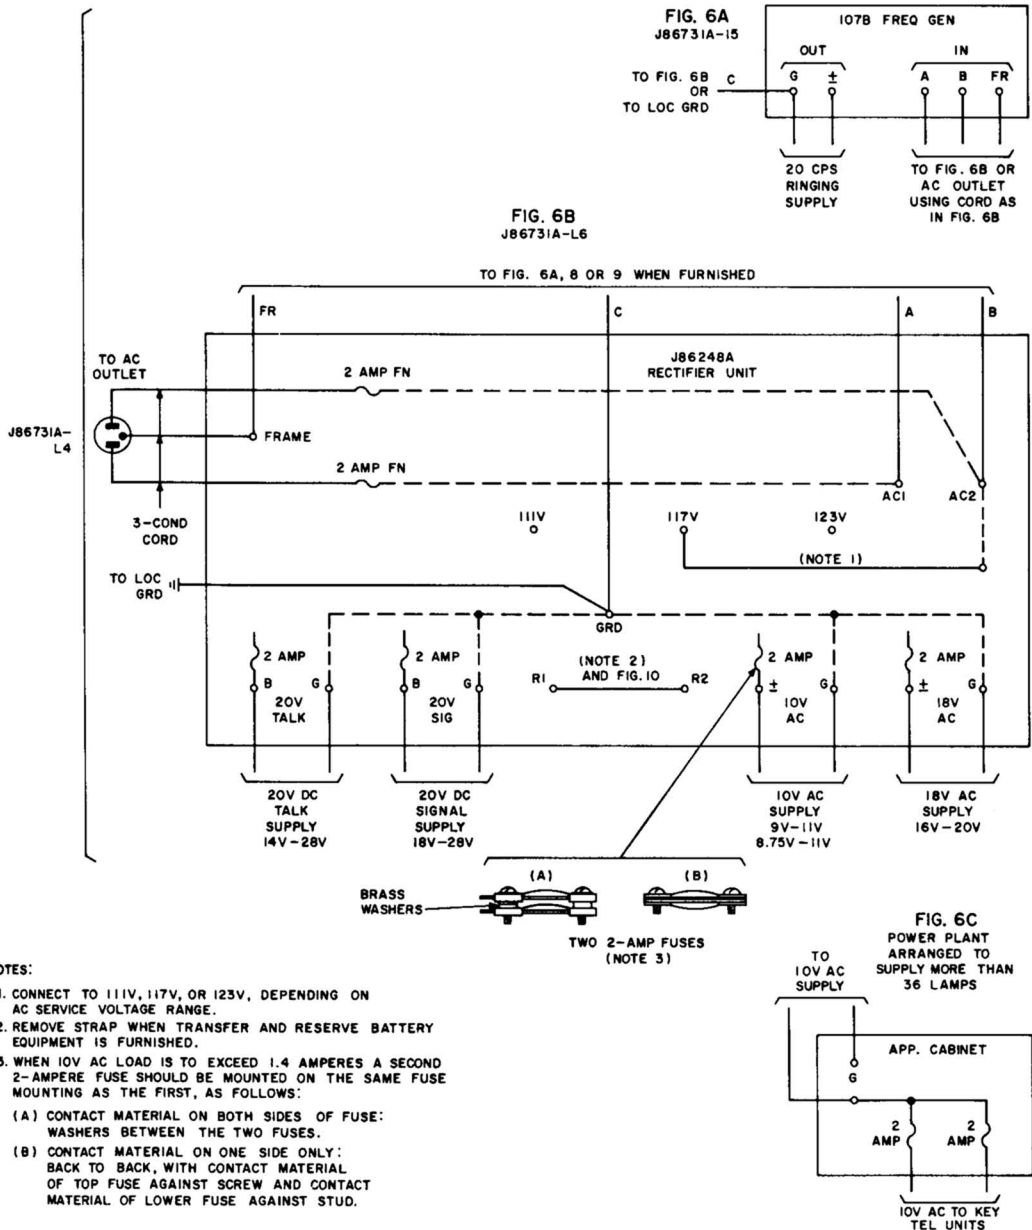
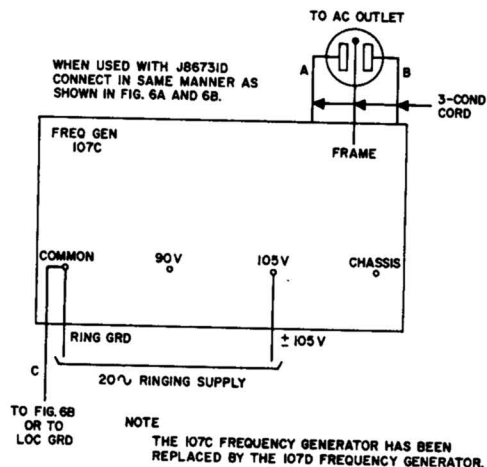

Fig. 6 — 101G (J86731A and D) Power Plants
Fig. 8 - 101G (J86731C) Power Plant (107C Frequency Generator)
4.01 Power plant connections are shown in Fig. 6, 7, 8, and 9.
*See Note 3, Fig. 6. **See Note, Fig. 8. ***Total DC load not to exceed 1.5 amps.